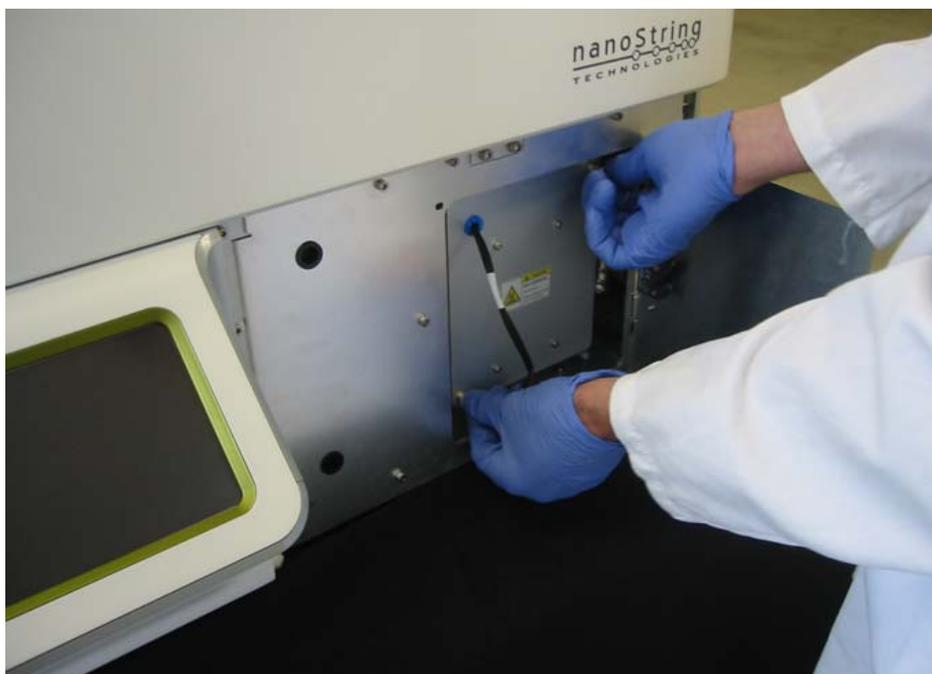

Figure 3.12 Loosening Thumb Screws
5. Loosen the two thumbscrews on the bulb housing unit (Figure 3.12).